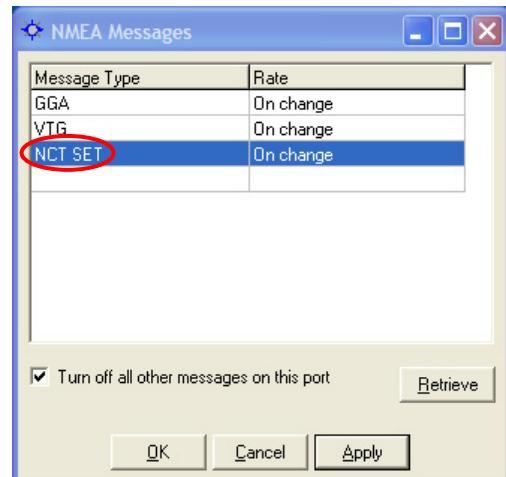

Figure 46: NCT SET
- NCT SET scheduled for output in the NMEA Messages window (see Figure 46)